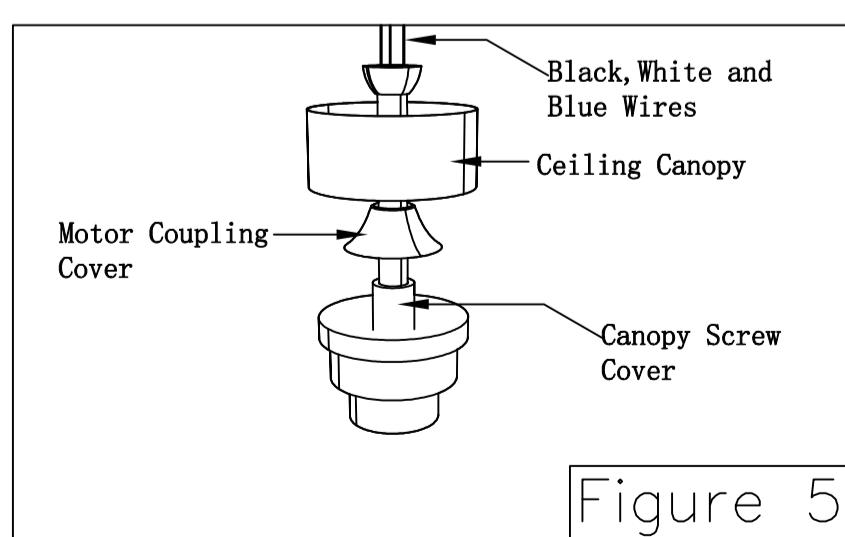

Figure 5
□ Route wires through motor coupling cover, canopy screw cover and ceiling canopy. (Figure 5)